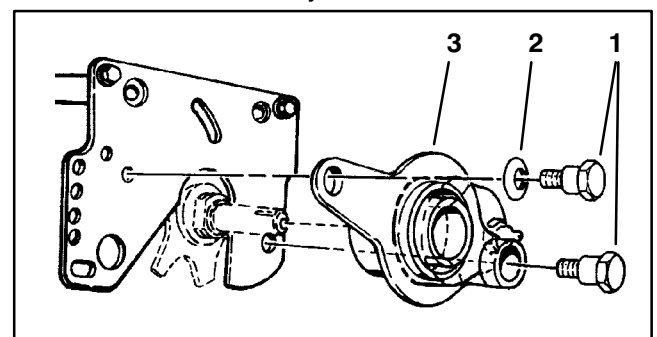

Figure 5
2. Remove (2) shoulder bolts, locknuts, and (1) Belleville washer securing bearing housing to right side of unit. Slide bearing housing off reel shaft (Fig. 5).